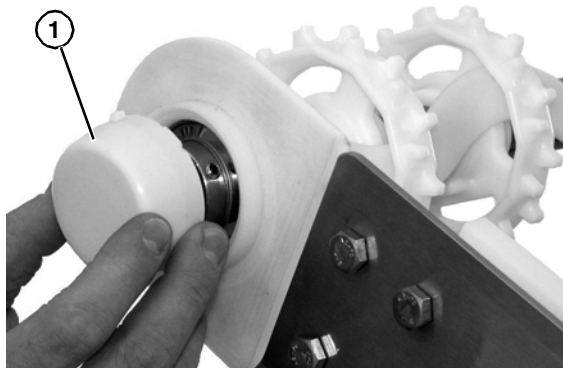

Figure 55
3. Remove bearing cover (**Figure 55, item 1**).